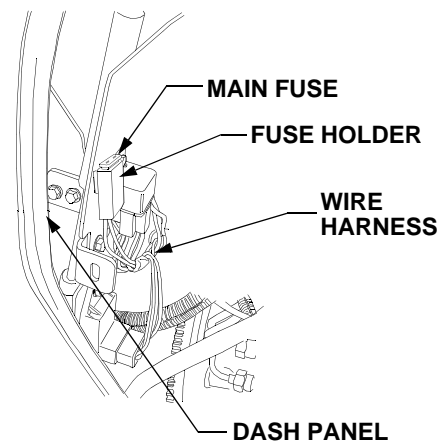

Figure 42
- Locate the fuse holder on the front of the bulkhead, just inside the right side of the dash panel. See Figure 42.